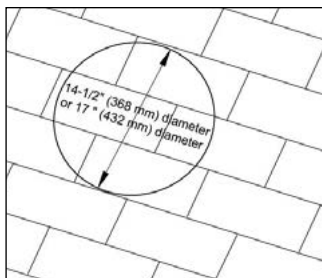

Figure 3
- 4. Cut roof hole...**between two rafters using predrilled marker and template on back of carton, cut your hole to the proper size (size and placement of hole are determined by whether you have 16" [406 mm] or 24"[610 mm] center rafters). See Figure 3.